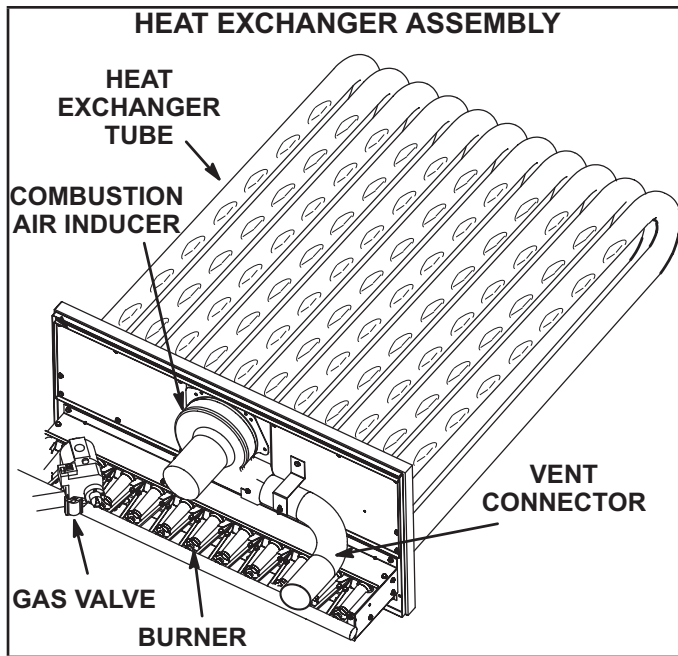

FIGURE 48
- 3 - Remove and retain screws securing combustion air inducer to flue box. Remove and retain two screws from bracket supporting vent connector. See FIGURE 48.